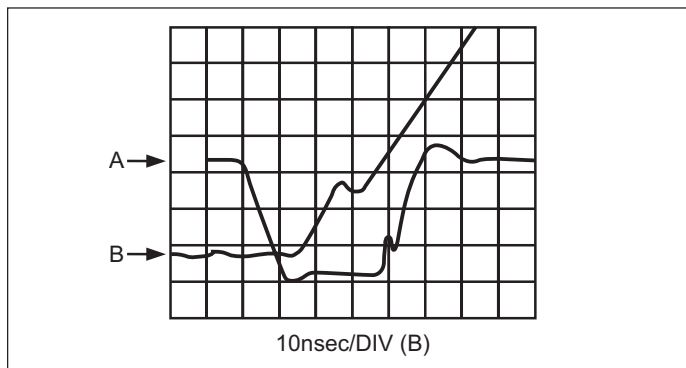
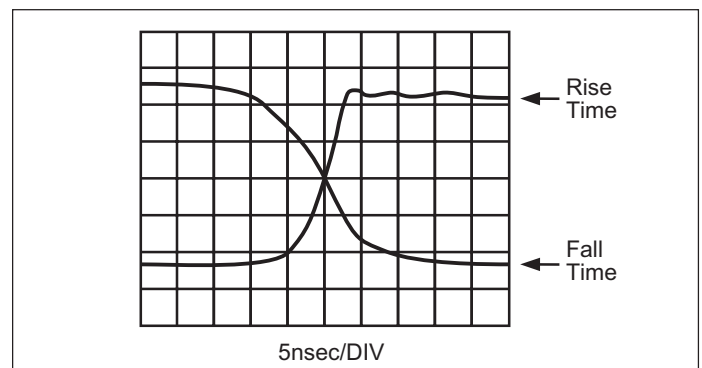
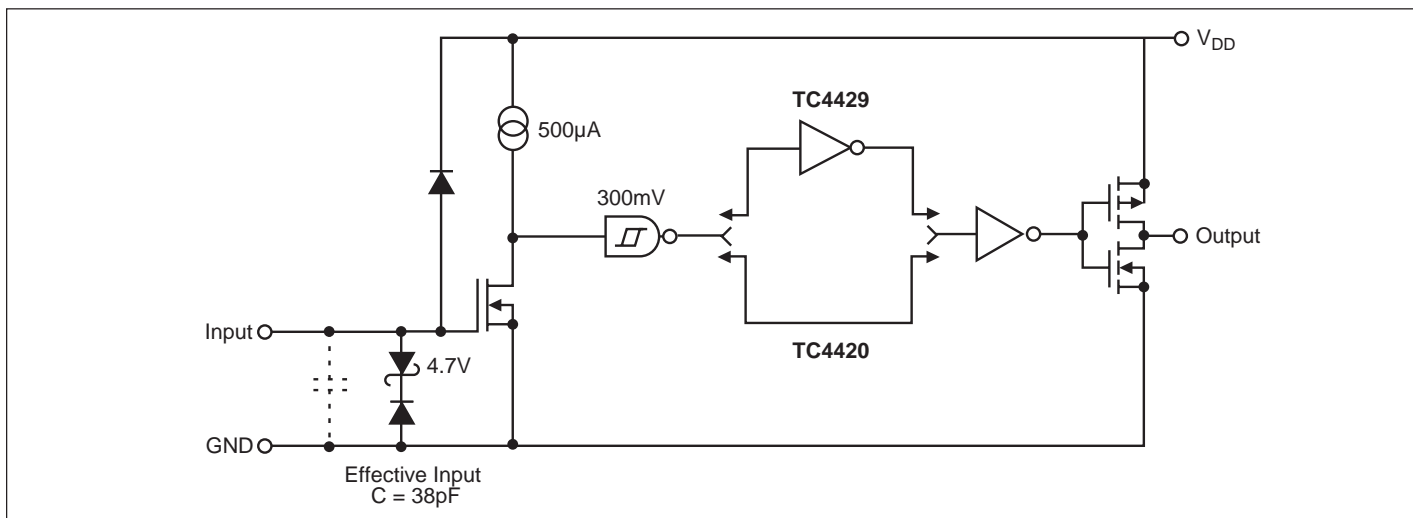

FIGURE 1: Output load 6800pF.
FIGURE 2: Typical rise and fall times (no load).
FIGURE 11: TC4420/4429 functional block diagram.
1. The rise and fall times are not equal creating a small asymmetry in the output waveform. (See Figures 1, 2, and 7.) This is due to having a P-channel device source current and an N-channel sink current from the load. (See Figure 11.) P-channels do not perform as well as N types, so the P output of the TC4420/4429 has been made larger to compensate. This does not make the P equal to the N in dynamic performance, only in static $R_{DS(ON)}$. This difference is most notable at higher loads. (See Figure 1.) At light loads the P actually outperforms the N in speed. (See Figure 2.)
2. There occurs a small "notch" in the rising waveform of about 5nsec in duration. It only occurs with loads above 400pF and is not normally of any concern. In Figure 1, waveform A shows the output of the TC4420/4429 with a 6800pF load. The "notch" is noticeable in the rising waveform; and waveform B is a magnified view of that rising edge. Note that if the "notch" were not there, the rise time would not substantially change.
As we have mentioned before the TC4420/4429 has Schmitt trigger inputs. The hysteresis provided by the Schmitt action is measured with conditions static (DC) for the data sheet, and can change substantially when driven by a pulse. (For an explanation of how the input section works see the section entitled "Input Effects on Quiescent Current.") The input is capacitive as the input signal is driving a MOSFET gate. (See Figure 11.) It therefore has the characteristic Miller capacitance from drain to gate, as well as gate to source capacitance. The device works most effectively when driven by a relatively low impedance source such as a CMOS or TTL buffer.
Since the input threshold is set by the input MOSFET's threshold (Figure 11), the trip point changes with temperature at the rate of approximately $-5\text{mV}/^\circ\text{C}$. For this reason, any input waveform that has slow rise times, such as open collector TTL, can exhibit a change in pulse width with a change in temperature at the output of the TC4420/4429. In applications where exact reproduction of pulse width from input to output is important, fast rise and fall times are important.
The state of the input signal changes the quiescent current draw of the TC4420/4429. The reason for this can be seen in Figure 11 which shows the input signal driving a MOSFET whose drain is attached to a current source of $500\mu\text{A}$. The drain is connected to an inverter with 300mV of hysteresis.
During the transition between the output states the P channel and N channel transistors can be on simultaneously. Although this happens for only a few nanoseconds, this additional power that is dissipated can be significant at frequencies above 1MHz at 100pF and above 250kHz at 10,000pF (see Figures 11 and 28).